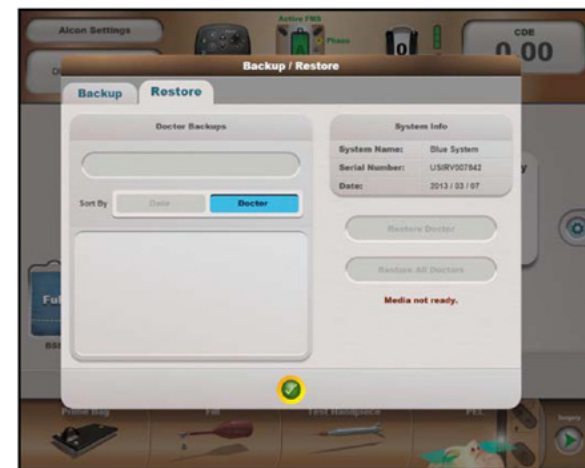

Figure 4-23 Backup/Restore Dialog Screen - Restore Tab
- 5.2.3 Press the Restore Tab (see Figure 4-23).